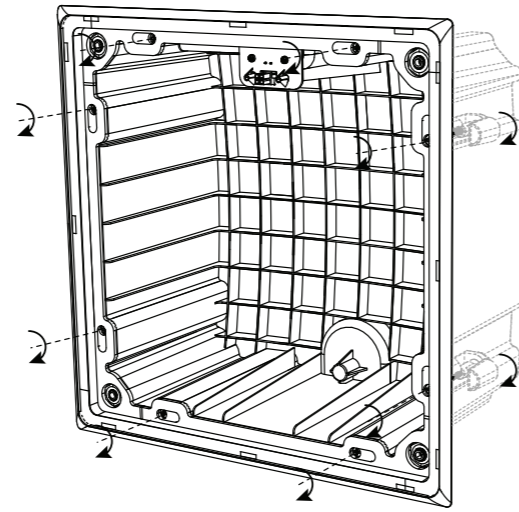

Fig. 18. Tighten the mounting clamp screws (X8)
3. Hold the back can in place in the ceiling, while tightening the mounting clamp screws clockwise (Fig. 18). Do this systematically until all eight clamps are in position and holding the back can securely to the ceiling drywall.